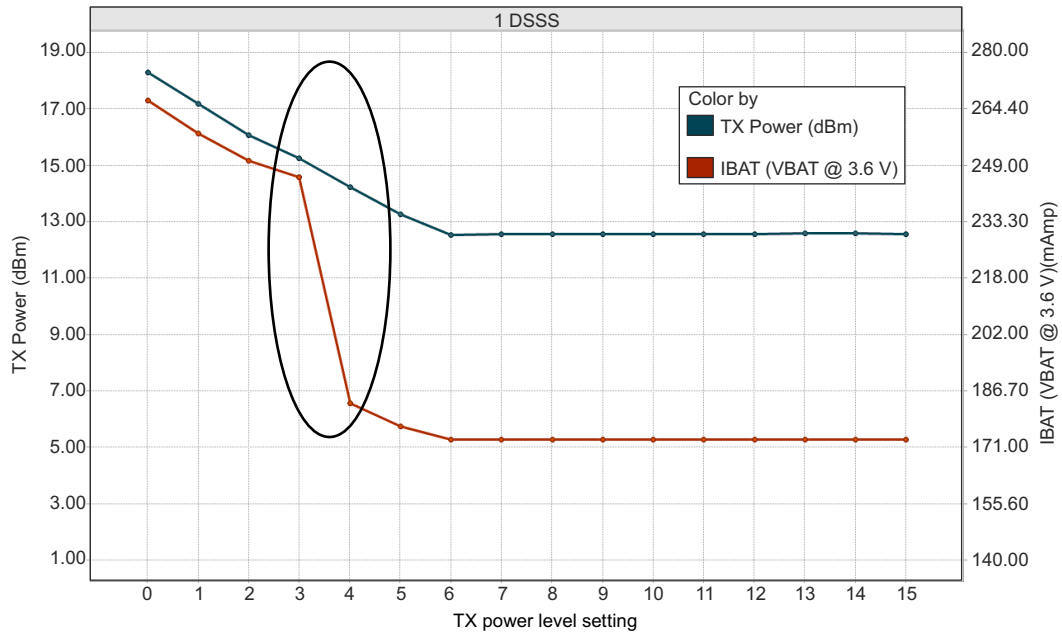
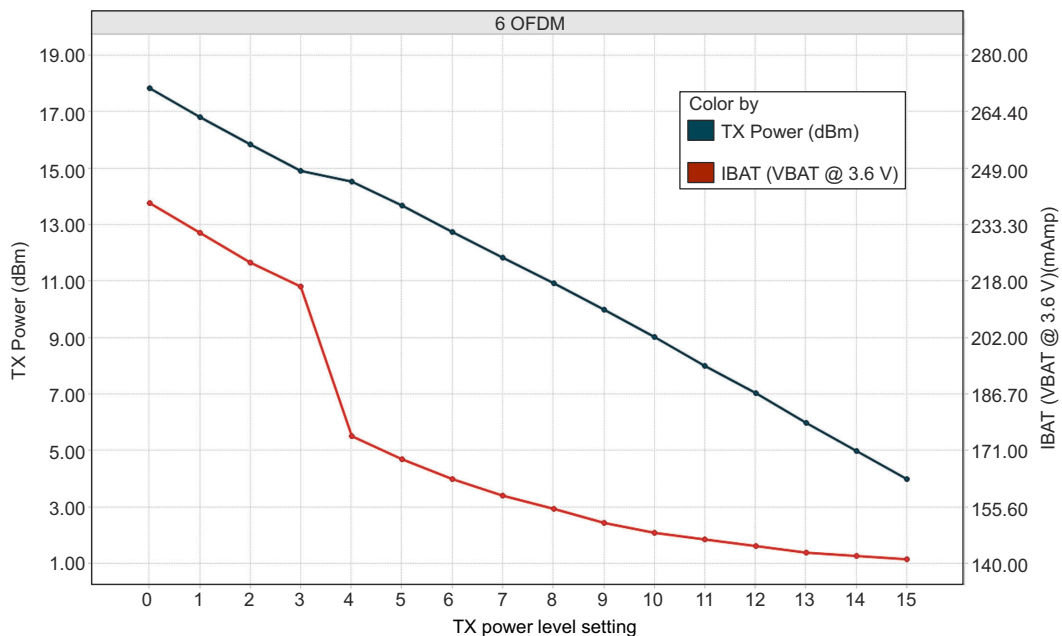
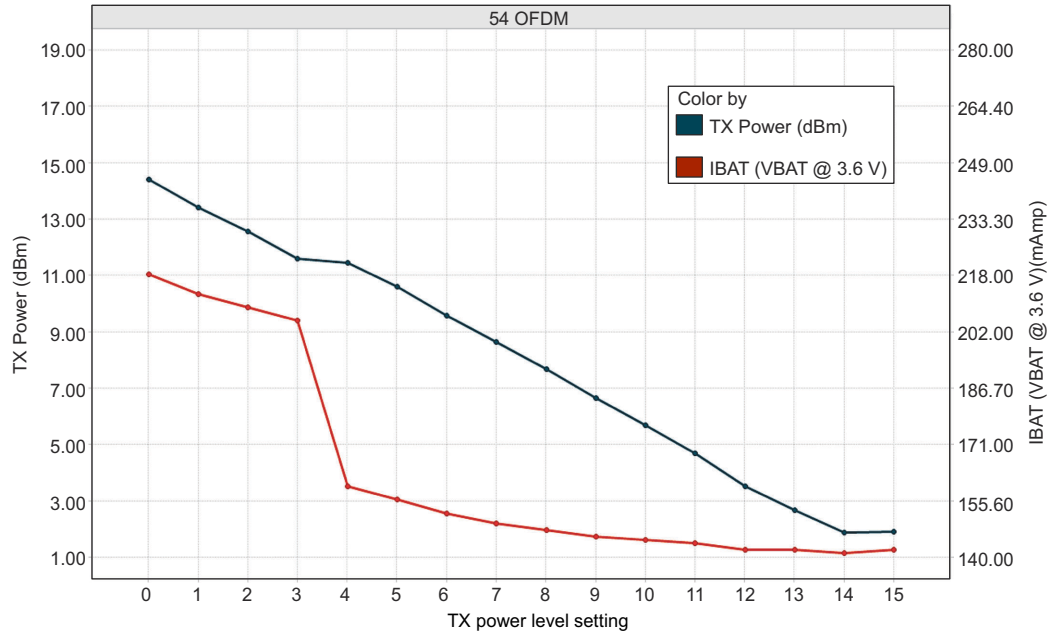

图 8-1. TX Power and IBAT vs TX Power Level Settings (1 DSSS)
图 8-2. TX Power and IBAT vs TX Power Level Settings (6 OFDM)
图 8-3. TX Power and IBAT vs TX Power Level Settings (54 OFDM)
- (1) TX power level = 0 implies maximum power (see 图 8-1, 图 8-2, and 图 8-3). TX power level = 4 implies output power backed off approximately 4 dB.
- (2) LPDS current does not include the external serial flash. The LPDS number of reported is with retention of 256KB of MCU SRAM. The CC3230x device can be configured to retain 0KB, 64KB, 128KB, 192KB, or 256KB of SRAM in LPDS. Each 64-KB block of MCU retained SRAM increases LPDS current by 4 μA.
- (3) DTIM = 1
- (4) The complete calibration can take up to 17 mJ of energy from the battery over a time of 24 ms. In default mode, calibration is performed sparingly, and typically occurs when re-enabling the NWP and when the temperature has changed by more than 20°C. There are two additional calibration modes that may be used to reduced or completely eliminate the calibration event. For further details, see *CC31xx, CC32xx SimpleLink™ Wi-Fi® and IoT Network Processor Programmer's Guide*.
- (5) The CC3230x system is a constant power-source system. The active current numbers scale based on the VBAT voltage supplied.
- (6) Typical numbers assume a VSWR of 1.5:1.
- (2) LPDS current does not include the external serial flash. The LPDS number of reported is with retention of 256KB of MCU SRAM. The CC3230x device can be configured to retain 0KB, 64KB, 128KB, 192KB, or 256KB of SRAM in LPDS. Each 64-KB block of MCU retained SRAM increases LPDS current by 4 µA.
- (4) The complete calibration can take up to 17 mJ of energy from the battery over a period of 24 ms. Calibration is performed sparingly, typically when coming out of HIBERNATE and only if temperature has changed by more than 20°C. The calibration event can be controlled by a configuration file in the serial flash.
- (5) Typical numbers assume a VSWR of 1.5:1.
图 8-1, 图 8-2, and 图 8-3 show TX power and IBAT versus TX power level settings for the CC3230S device at modulations of 1 DSSS, 6 OFDM, and 54 OFDM, respectively. For the CC3230SF device, the IBAT current has an increase of approximately 10 mA to 15 mA depending on the transmitted rate. The TX power level will remain the same.
In 图 8-1, the area enclosed in the circle represents a significant reduction in current during transition from TX power level 3 to level 4. In the case of lower range requirements (14-dBm output power), TI recommends using TX power level 4 to reduce the current.